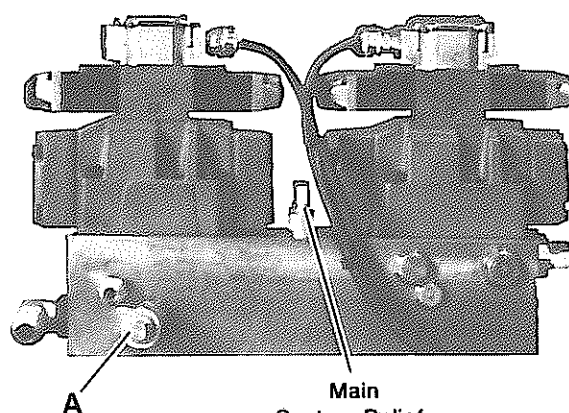

Fig. 54B
2. Remove the 1/4 inch JIC cap from gauge port (A), see Fig. 54B.
3. Connect a 5,000 p.s.i. hand-held gauge onto port (A).
6. Remove the 1/4 inch JIC cap from gauge port (A), see Fig. 54B.
7. Connect a 5,000 p.s.i. hand-held gauge onto port (A).